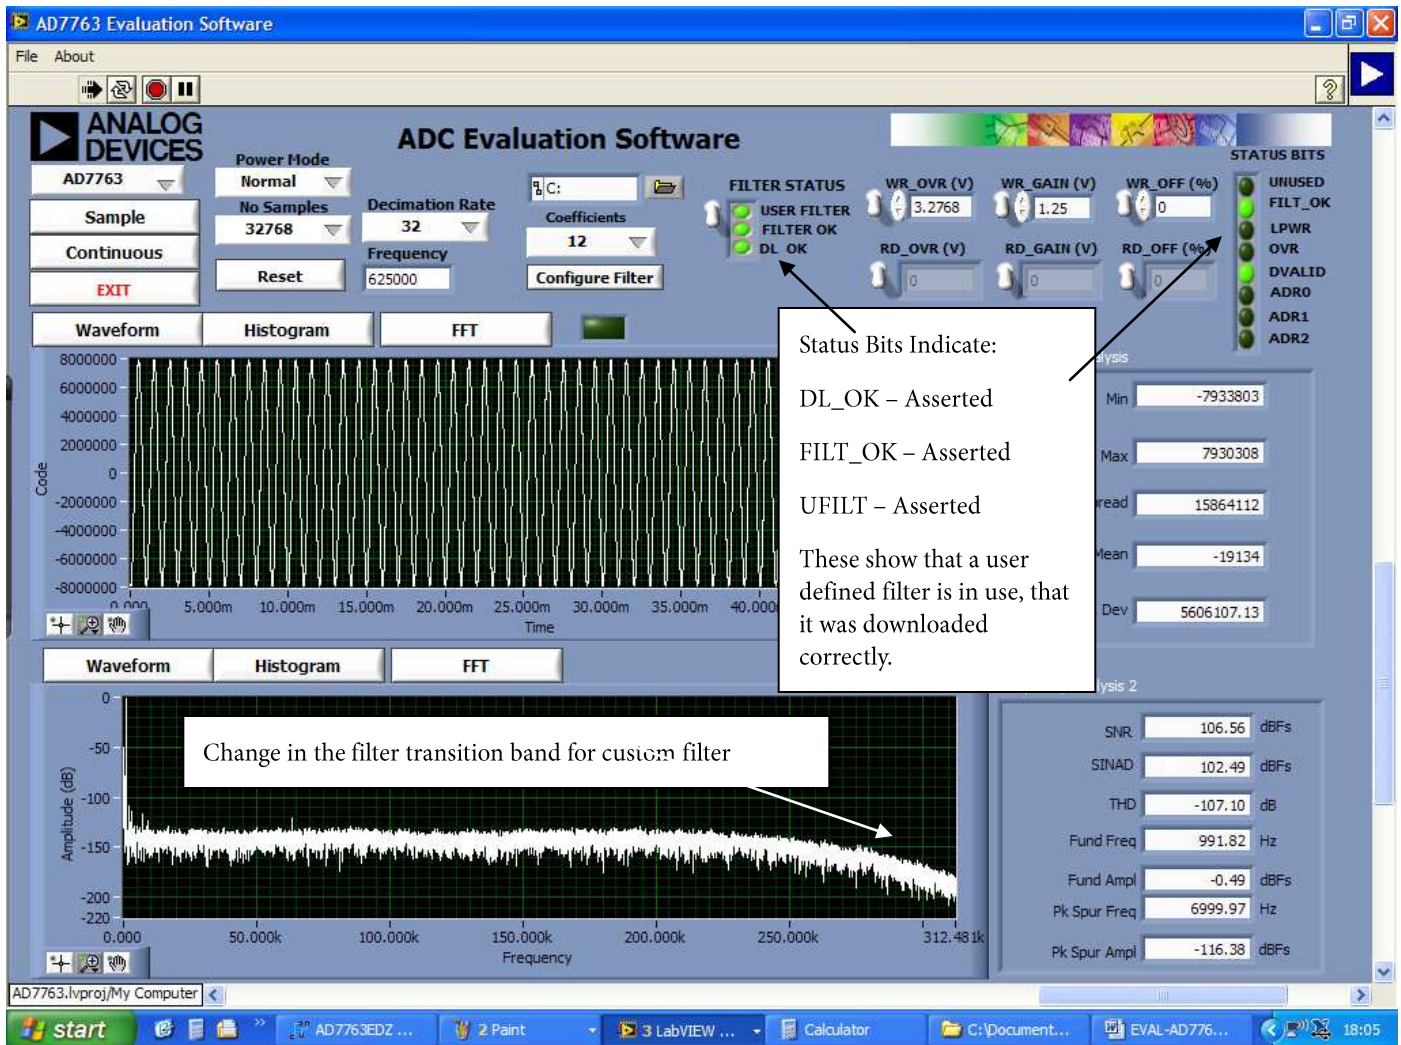

Figure 14. User-defined filter example – implemented on evaluation board. See indicators illuminated, and custom filter transition band.
- e) The filter example used in the AD7763datasheet will show a slower transition band. The FFT of this filter implementation is shown in Figure 14. As highlighted, the status bits output by the ADC will show if the filter file has been downloaded correctly. The indicators for the DL_OK, FILT_OK and UFLT are all asserted to show a successful filter download.